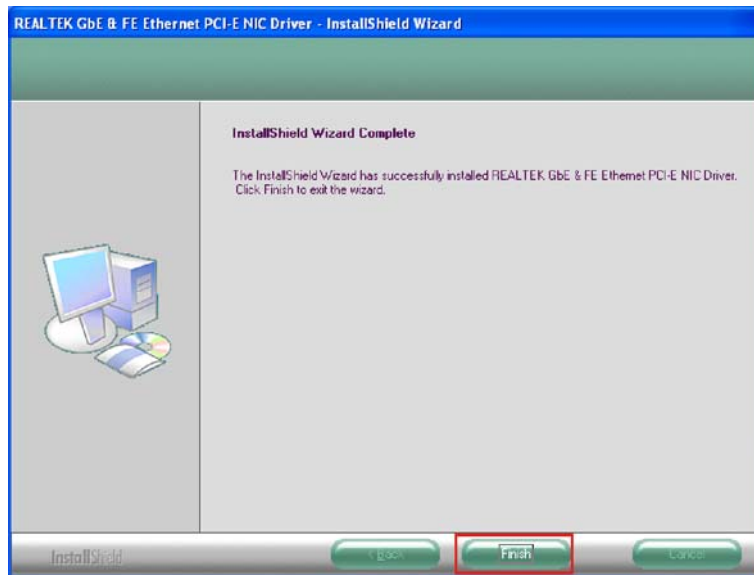

Figure 7-16: LAN Driver Installation Complete
Step 40: When the driver installation is complete, the screen in Figure 7-16 appears.
Step 41: Click **FINISH** to exit the InstallShield Wizard (Figure 7-16).